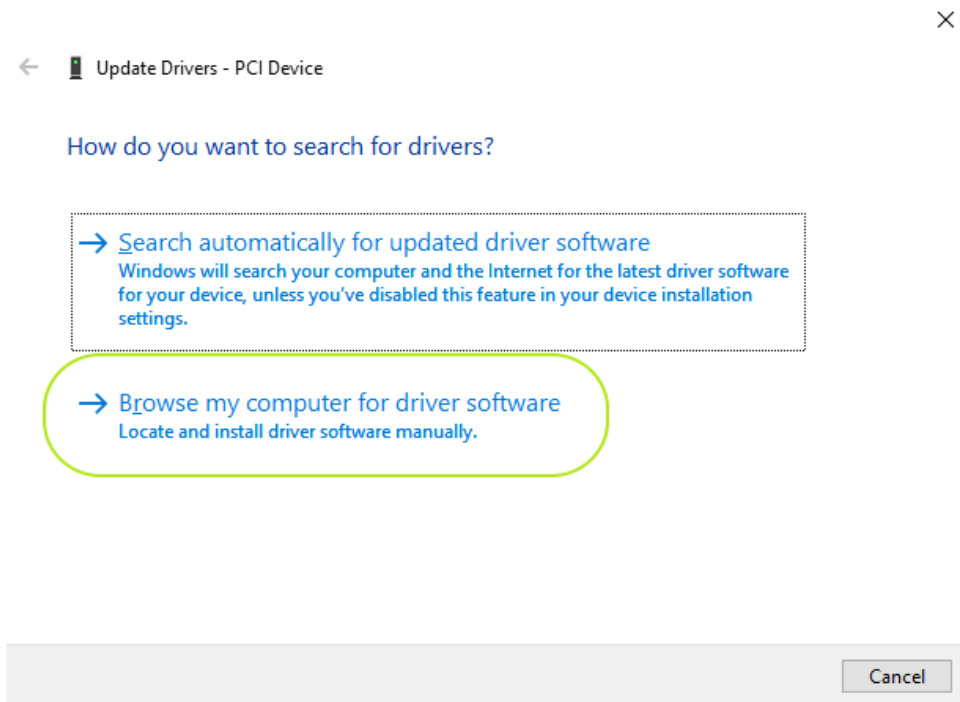

Figure 3-4 Dialog of Browse my computer for the driver software
7. In the **How do you want to search for the driver software** dialog, click **Browse my computer for driver software** item, as shown in **Figure 3-4**